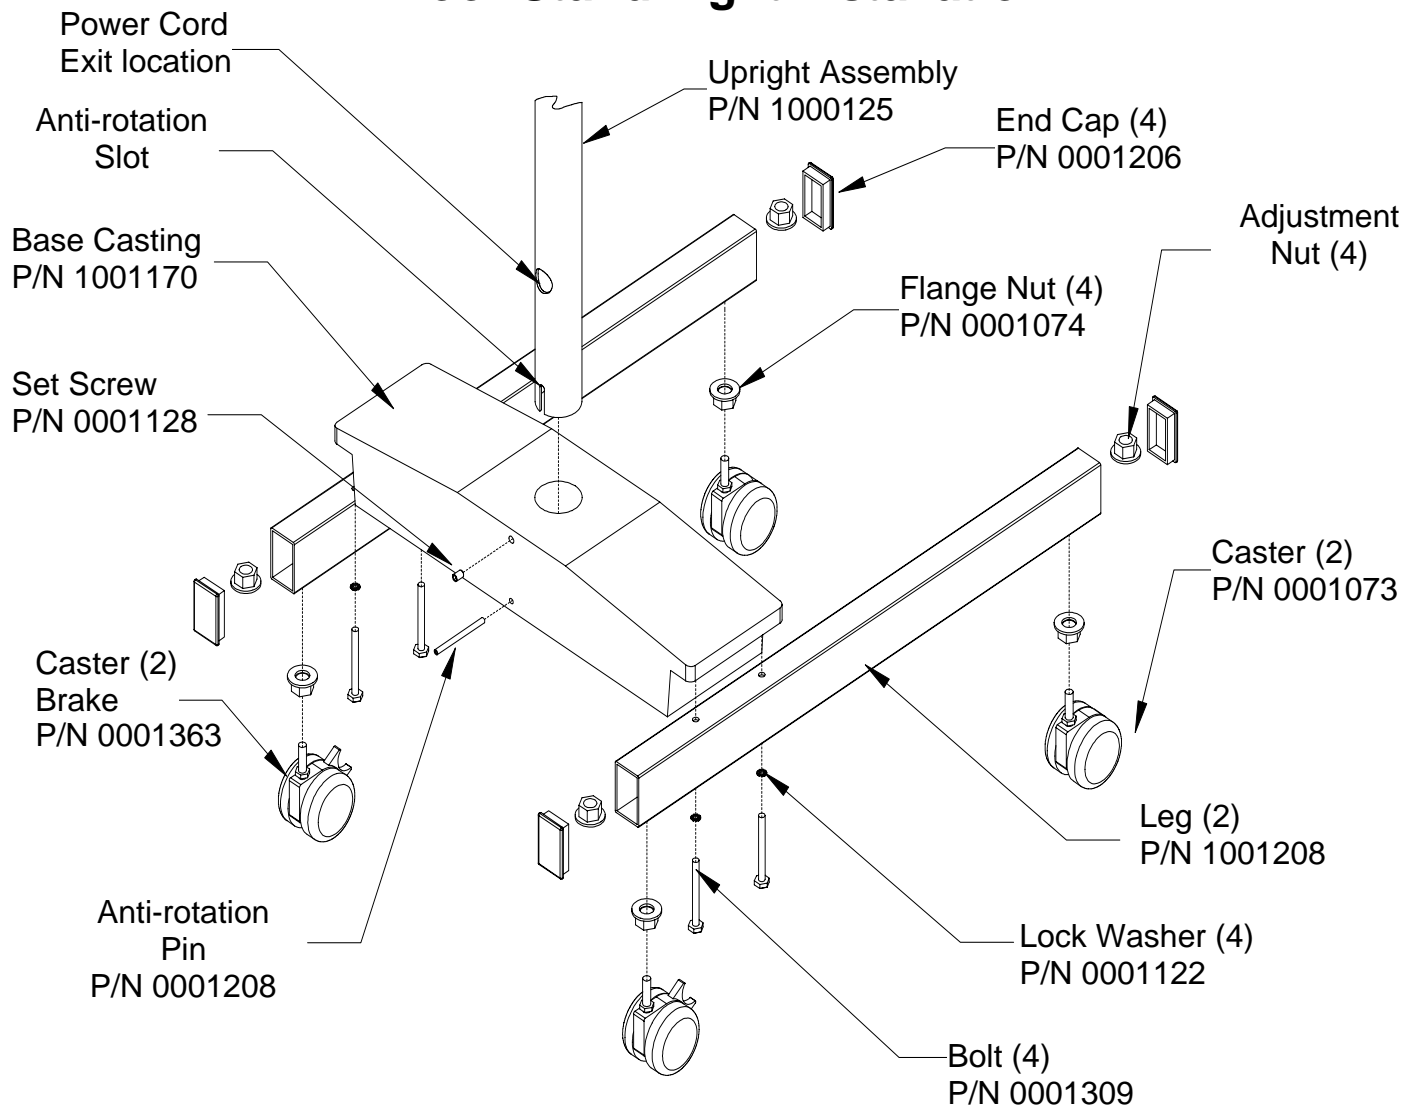

FIGURE 13: Floor Stand Light Installation
- Bolt the assembled legs onto the cast iron base using four  $\frac{1}{4}$ " - 20 x  $1 \frac{3}{4}$ " bolts and  $\frac{1}{4}$ " lock washers. Position the floor base casting so that the set-screw in the base is at the rear of the assembly. See figure 13.
- To level the base, remove the end caps at the end of each leg and adjust the caster bolts and nuts. Once the base has been leveled, tighten the nuts securely and insert the leg cap in the end of each leg. See figure 13.